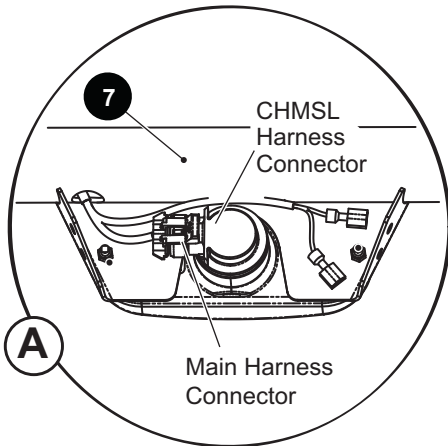

Fig. 3 CHMSL
1. Mount the Center High Mount Stop Light (CHMSL) (10) to the existing mounting bracket on the center of the extended cab cross-tube (7) (Ref. Fig. 3). Make sure the wiring is on the same side as the exposed